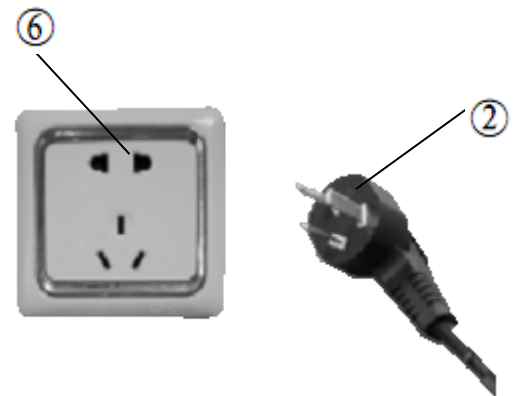

Fig.14
4. Connect the other end of the power cord② to a wall outlet⑥.(Fig.14)